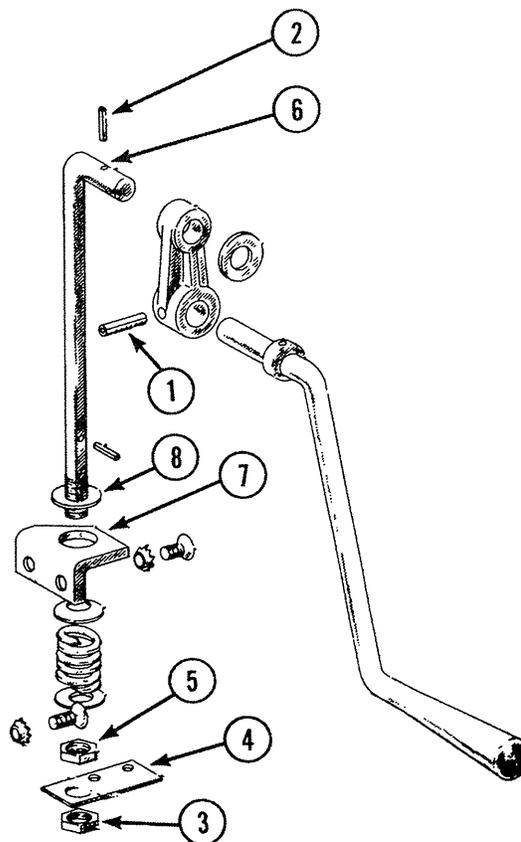

Fig. 6-9
- (2) Place lift handle in lower position and knock out rollpin (1, Fig. 6-9).
- (3) Remove handle.
- (4) Reassemble in reverse order.
- (1) Refer to steps 1 through 3 "Replacing Bowl Lift Handle".
- (2) Remove rollpin (2, Fig. 6-9) and remove bowl lift arm.
- (3) Reassemble in reverse order.
- (3) Knock out rollpin (2, Fig. 6-9).
- (5) Remove lower jam nut (3, Fig. 6-9) and lower spring lift bracket (4, Fig. 6-9).
- (6) Remove jam nut (5, Fig. 6-9). The flat washer, bowl lift spring and cupped washer will slide off the bowl lift rod.
- (7) Pull the bowl lift handle down. This will clear the bowl lift rod (6, Fig. 6-9) from the bowl support (7, Fig. 6-9). Do not lose the flat washer (8, Fig. 6-9) located above the bracket.
- (8) Remove the bowl lift rod.
- (9) Reassemble in the reverse order.
- F. All parts (Fig. 6-9) can be removed and used on the new pedestal.